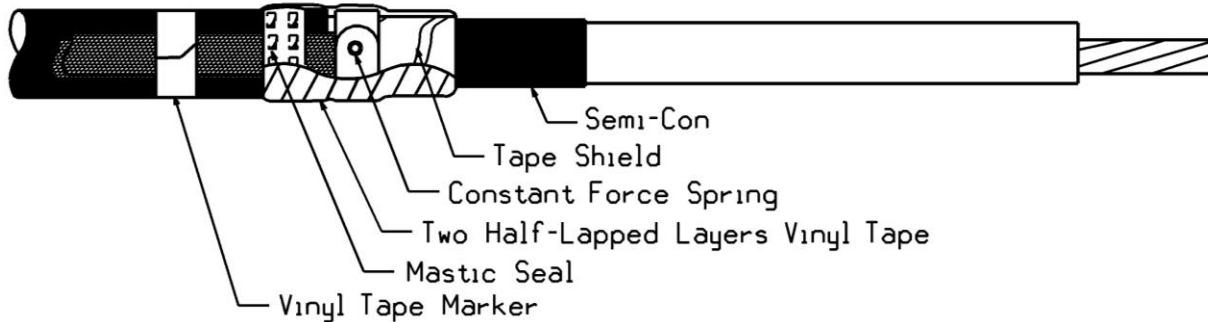

Figure 20
4. Wrap two half-lapped layers of vinyl tape around the mastic seal, constant force spring and exposed metallic shield. Do not allow the vinyl tape to lap onto the cable semi-con. Do not apply more than 2 half-lapped layers. **Note:** If vinyl tape was used to hold the copper tape in place in Step 2 of preparing the cable, remove it just prior to applying this tape. See Figure 20.